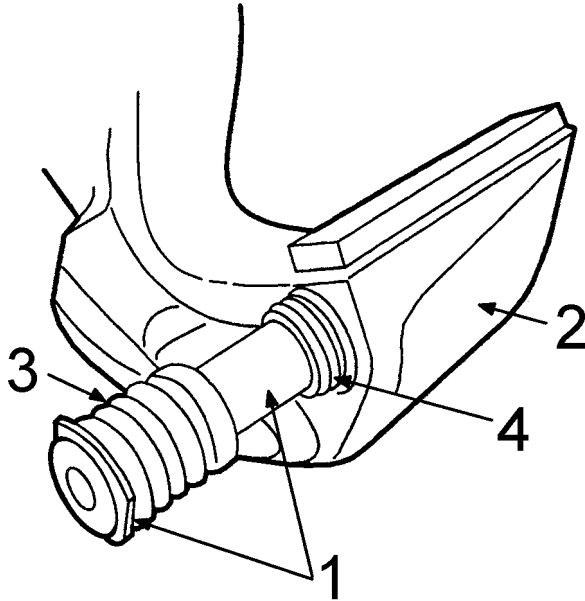

Figure 42 Remove Guide Pins and Guide Pin Boots from Anchor Plate
3. Remove guide pins and guide pin boots (Items 4 and 5) by pulling guide pin out of anchor plate (Item 1) with a slight twisting motion. The guide pin boot (Item 3, Figure 42) (See Figure 42, page 45) will
pull off the anchor plate boot groove (Item 4, Figure 42) (See Figure 42, page 45). Remove guide pin boots from guide pins.